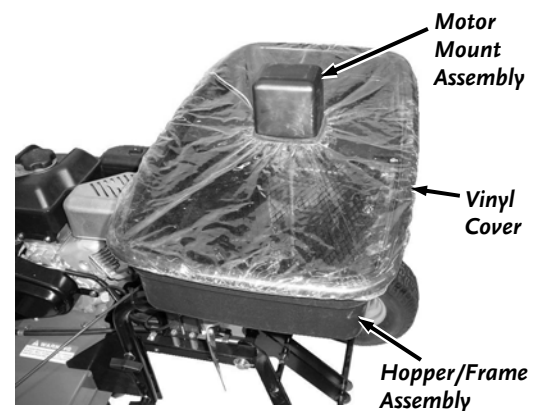

Figure 29
8. Heavy moisture conditions may require a cover over the hopper to keep contents dry. The Vinyl Cover acts as a wind and moisture shield, but should not be used as a rain cover (**Figure 29**).